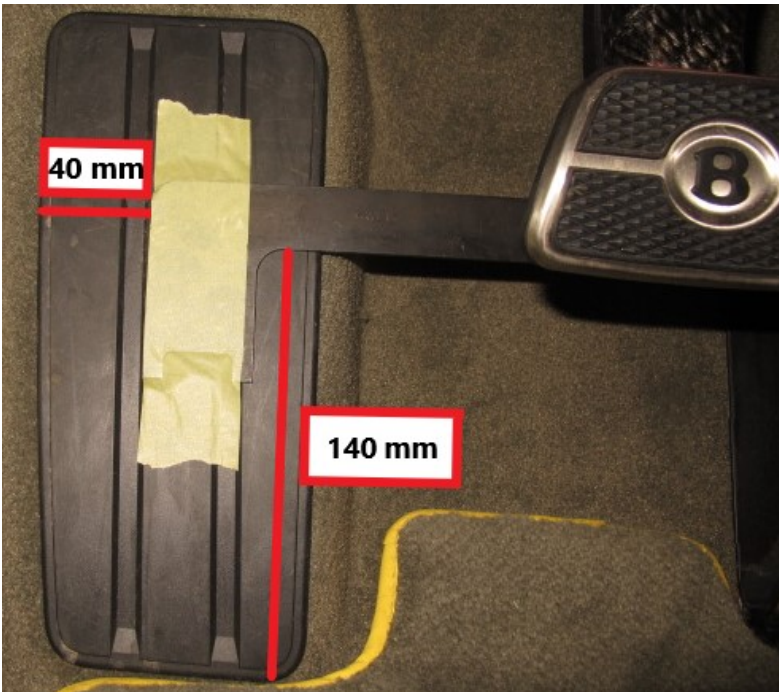

Figure 2
2) Referring to Figure 2 - Use suitable adhesive backed tape - Stick / adhere WT 10084 to the footrest at the location shown
HINT: The specification of the footrest and brake pedal may be different than shown in Figure 2, the operative must ensure the given measurements are used regardless of specification